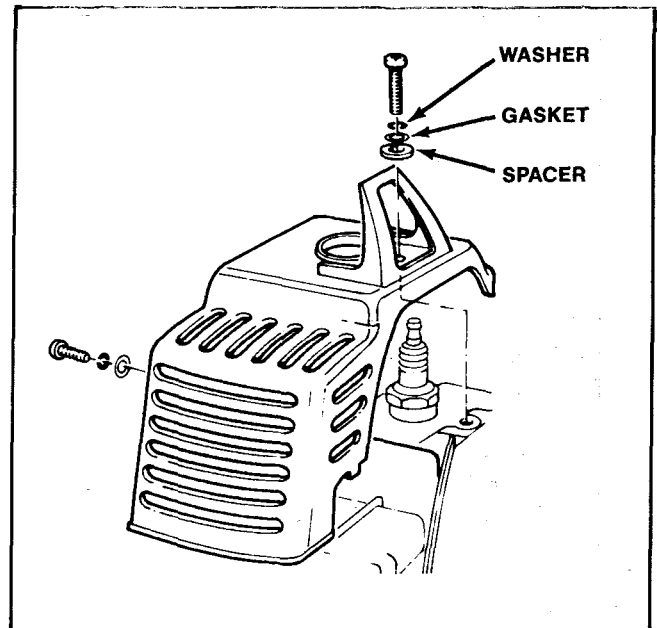

Figure 2
1. Remove the three screws securing the muffler cover to the trimmer. See Fig. 2. Be careful not to lose the spacer and gasket material beneath the spark plug protector screw.
6. Reinstall muffler cover and tighten all fasteners securely. Be sure to install the spacer underneath the spark plug protector as shown in Figure 2.